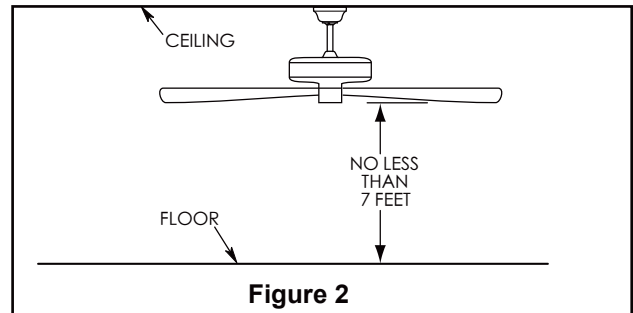

Figure 2
2. Slide blades through slots in motor housing and attach to the motor hub using the #8-32 serrated head screws and flat washers. Make sure the screws securing the blades to the motor hub are tight and are properly seated. (Figure 2)
- 2. Remove the hairpin clip and clevis pin from the bottom of the downrod. Retain the pin and clip for reinstallation in Step 4. (Figure 2)
The fan must be hung with at least 7' of clearance from floor to blades. (Figure 2)
To avoid possible electrical shock, be sure electricity is turned off at the main fuse box before wiring (Figure 2).